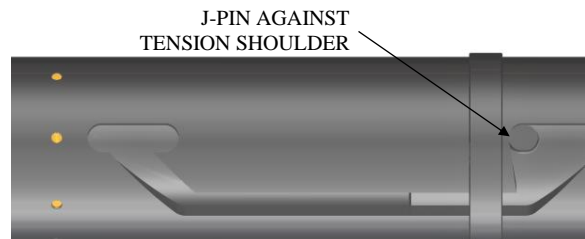

Fig. 8
K-1.20) Position J-pin of J-pin bottom sub (23) on tension shoulder in J-slot of J-body (20) (Fig. 8).